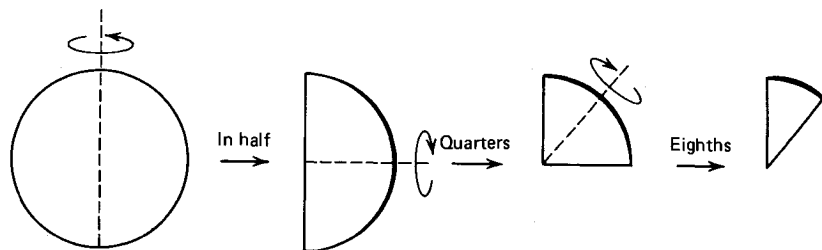

Fig. 49 Folding filter paper into eighths.
1. Fold the paper in half, then in half again, then in half again (Fig. 49). Press on this wedge of paper to get the fold lines to stay, but *don't crease*. *Do this in one direction only*. Either always fold toward you or away from you, but not both.